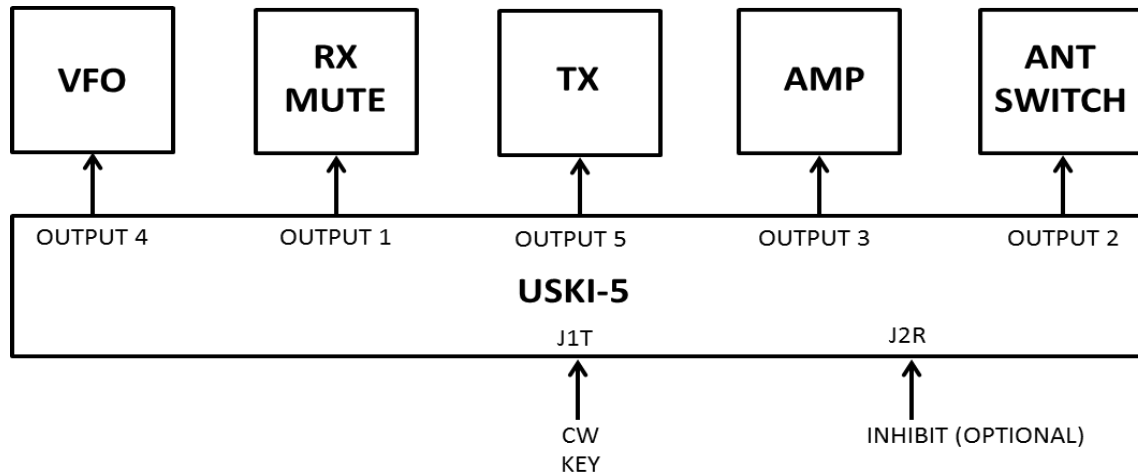

FIGURE 4
Another application for Program (C) is with stations that use separate components such as a VFO, transmitter, receiver, and possibly other devices (power amplifier, antenna T/R switch or relay, etc.) as shown in figure 4.